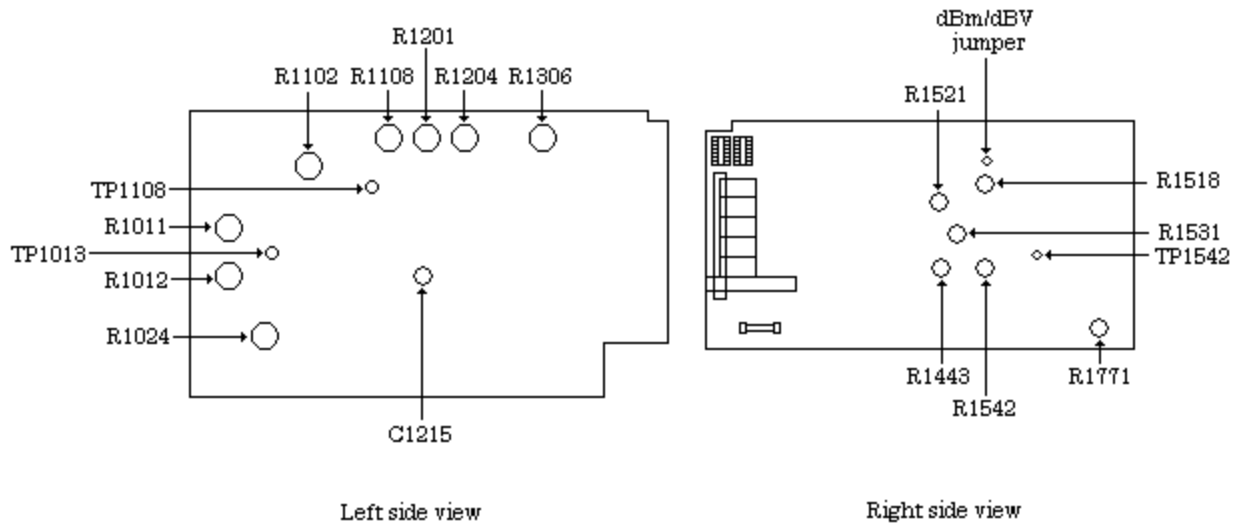

Figure 2. Type DM 502A – left and right side views.
- (1) Set calibrator to **STANDBY** and disconnect from TI.
- (2) Short TI **VOLTS/W** and **LOW**.
- (3) Press TI **200 mV** pushbutton. Adjust R1542 (fig. 2) until TI indicates 000.0.
- (4) Remove short from **VOLTS/W** and **LOW**.
- (5) Connect calibrator **OUTPUT HI** and **LO** to TI **VOLTS/W** and **LOW**.
- (6) Press TI **2 V** pushbutton.
- (7) Set calibrator for a 1.8 V dc output. Adjust R1443 (fig. 2) until TI indicates 1.800 V (R).
- (8) Set calibrator for a 180 mV dc output.
- (9) Press TI **200 mV** pushbutton. Adjust R1531 (fig. 2) until TI indicates 180.0 mV (R).
- (10) Set calibrator to **STANDBY** and disconnect from TI.
- (11) Short TI **VOLTS/W** and **LOW**.
- (12) Connect multimeter **INPUT HI** to TP1013 (fig. 2) and **LO** to TI **LOW**. Adjust R1011 (fig. 2) until multimeter indicates 0.000 V dc.
- (13) Disconnect multimeter and short from TI.
(1) Adjust R1306 (fig. 2) until TI indication equals calibrator output display indication rounded to TI digits of resolution (R).
- (3) Press TI **200 mV** range pushbutton. Adjust R1204 (fig. 2) until TI indicates 00.0.
- (6) Press TI **2 V** range pushbutton.
- (7) Set calibrator for a 1.8 V, 100 Hz output. Adjust R1108 (fig. 2) until TI indicates 1.800 V (R).
- (8) Press TI **20 V** range pushbutton.
- (9) Set calibrator for a 18 V, 10 kHz output. Adjust C1215 (fig. 2) until TI indicates 18.00 V (R).
- (1) Position **dBm/dBV** jumper (fig. 2) in **dBm** position.
- (2) Press TI **VOLTS AC TRUE RMS, dB**, and **200 V** pushbuttons.
- (3) Connect calibrator **OUTPUT HI** and **LO** to TI **VOLTS/W** and **LOW**.
- (4) Set calibrator for a 77.46 V, 100 Hz output. If TI does not indicate between +39.5 and +40.5, perform **b** below.
- (5) Set calibrator for a 77.46 mV, 100 Hz output.
- (6) Press TI **200 mV** pushbutton. If TI does not indicate between -19.5 and -20.5, perform **b** below.
- (7) Set calibrator for a 0.7746 mV, 100 Hz output. If TI does not indicate between -59.5 and -60.5, perform **b** below.
- (8) Position **dBm/dBV** jumper (fig. 2) in **dBV** position.
- (9) Press TI **MAX dB** pushbuttons and set calibrator output for settings listed in table 12. TI will indicate within limits specified.
- (1) Press TI **200 V** pushbutton.
- (2) Connect multimeter **INPUT HI** to TP1108 (fig. 2) and **LO** to TI **LOW**.